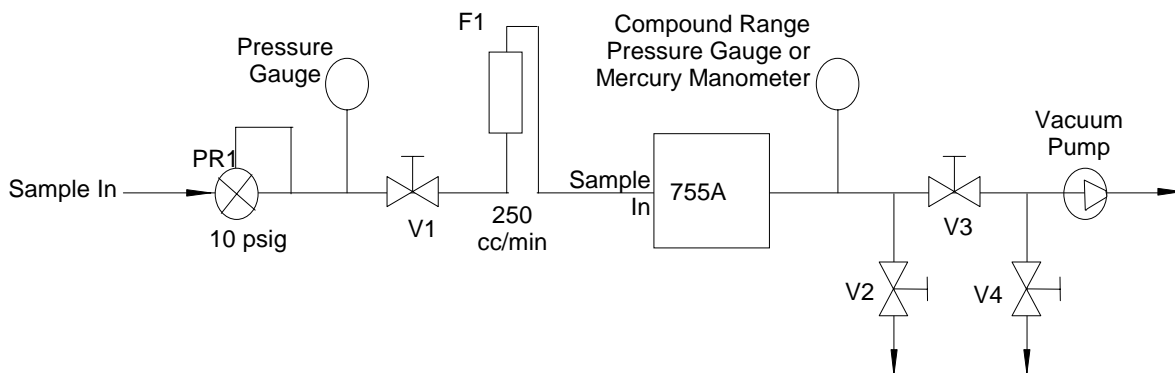

FIGURE 3-3. CALIBRATION BY PRESSURE DECREASE SETUP
2. Connect a compound range pressure gauge (or mercury manometer), pressure gauge, pressure regulator, flowmeter, needle valves and vacuum pump as shown in Figure 3-3.